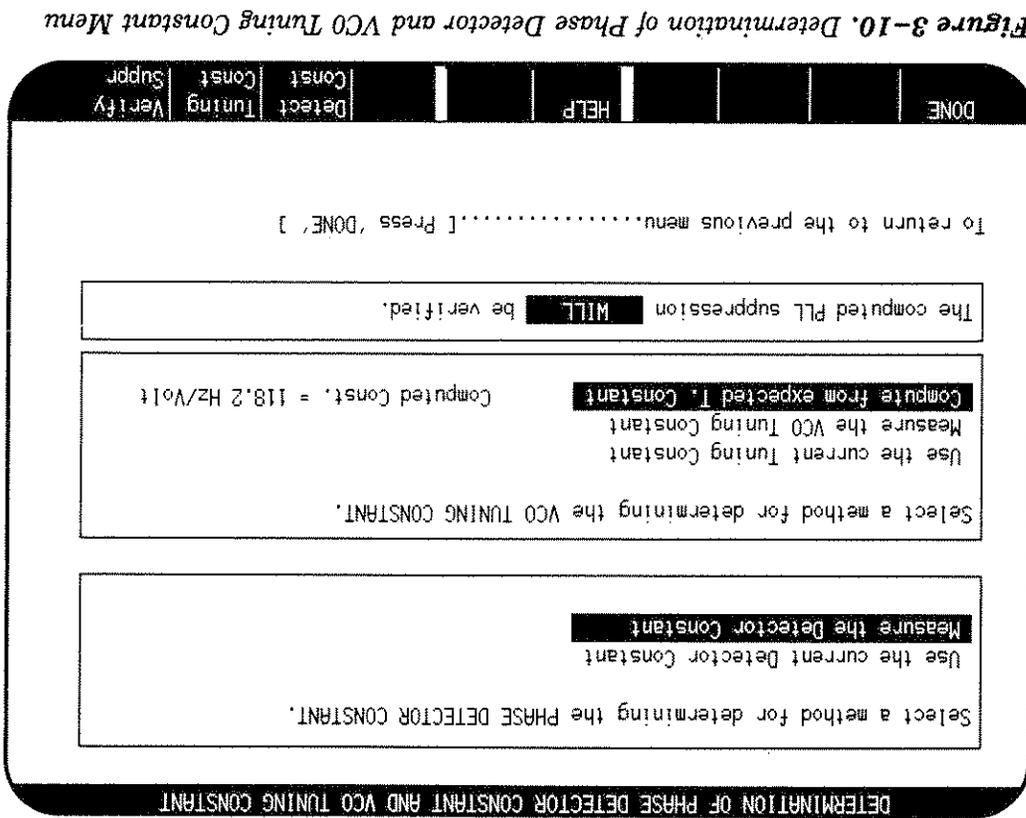

Figure 3-10. Determination of Phase Detector and VCO Tuning Constant Menu
- On the HP 3048A press the **Calibr Process** softkey to obtain the Determination of Phase Detector Constant and VCO Tuning Constant menu. Set the method of determining the phase detector and VCO tuning constants and the verification of the phase lock loop suppression as shown in figure 3-10. (The displayed Computed Constant may be quite different from the one in figure 3-10. It will be updated later.) When done, press the **DONE** softkey.